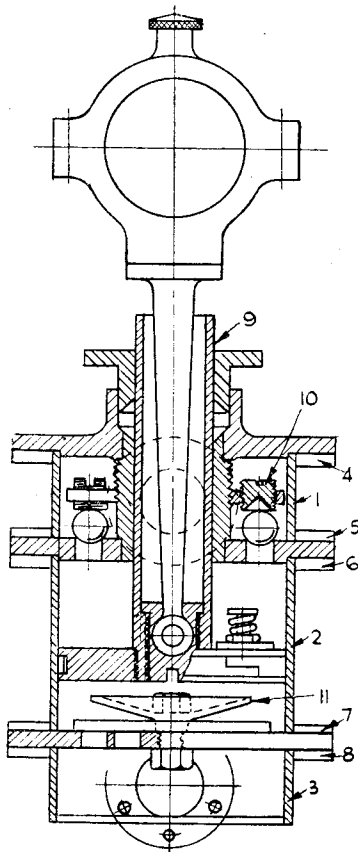
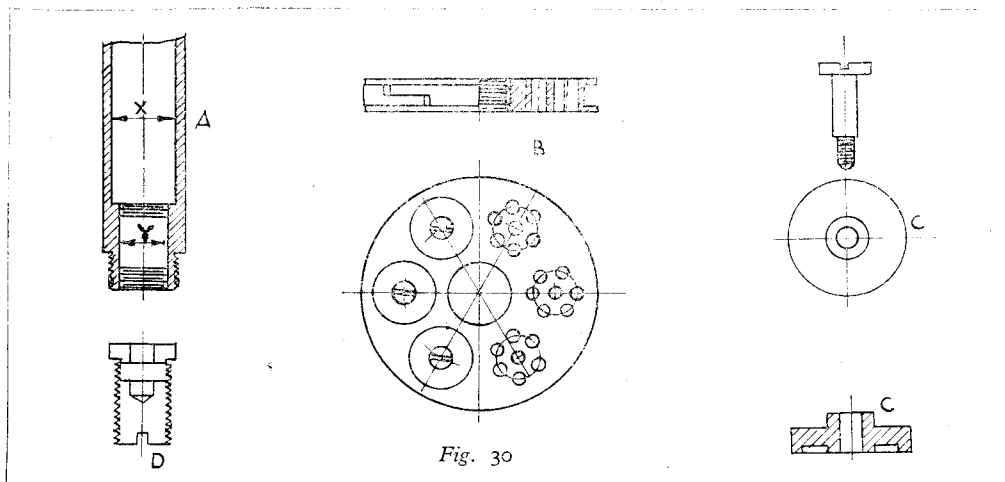
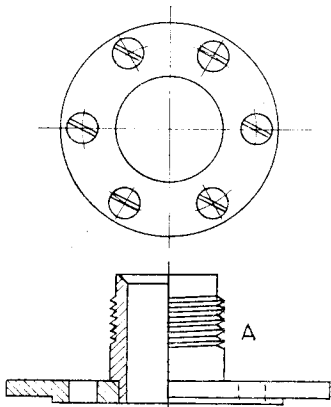

Fig. 29
Fig. 30
Fig. 31
The air-pump was the next item to claim attention. Fig. 29 is a sectional elevation of it, and apart from nuts, bolts and studs, there are 48 pieces involved in its construction. The original intention was that the air-pump should be of the Edwards type and single-acting, as this design would have involved much less work in its construction; but investigation of the capacity revealed that the stroke would have had to be very long, and the diameter very much greater than that now fitted. The next obstacle to be met was the fact that nothing large enough in diameter was available; so, to retain the existing diameter, the stroke would have to be greatly increased. The drive for the pump being by eccentric, double the present stroke which, by the way, is $\frac{1}{2}$ in., would have been necessary, and this, of course, was out of the question. The only solution was for the pump to be double-acting, $1\frac{1}{4}$ -in. bore by $\frac{1}{2}$ -in. stroke. Then the fun began. It must be remembered that, at the time this was under construction, no castings could be obtained, even if one made the patterns; so the whole pump had to be fabricated.
A piece of solid-drawn brass tube, which was once a portion of an Evinrude out-board motor and approximately $1\frac{1}{4}$ -in. inside diameter, was available and from this the body of the pump was made. Three pieces, Fig. 29, 1, 2, and 3, were cut off, and the ends turned up square, and to the requisite length, allowing about $\frac{1}{32}$ in. to be cleaned off after the flanges were in position. These were all the parts that were required to make the body.
The next thing required was the seating for the head-valves, Fig. 31; this was a portion which required careful handling, as, apart from being the head-valve seat, it carried the guide for the trunk, which must be absolutely concentric with the air-pump barrel, 2, Fig. 29, in addition to being the guide for the trunk 9, Fig. 29. This guide spigots into the top cover of the pump, and forms the lower portion of the cover stuffing-box, so it will readily
The guide and valve-seat were now forced on the mandrel, using the tailstock spindle to force it on, and the whole of the external part of the guide turned, including the threaded part, A, Fig. 31, which is screwed 36 threads per inch. The purpose of this will be referred to later on. The spigot on the opposite side of the valve-seating was now turned to be a good fit in 2, Fig. 29. The top side of the valve-seating was again trued up, and finally the outside diameter was turned to finished size. The holes in the valve-seating were marked off and drilled; they were six in number and $7/32$ in. diameter.
bit less than the thickness of the rubber. What is a tiniest bit? Well just sufficient for the valve-guard, 11, Fig. 29, to clamp the rubber in its place; 0.004 in. would be ample.
The valve-guard is a piece of brass $\frac{1}{8}$ in. thick dished over a hole to the shape shown at 11, Fig. 29. The hole in the centre of the valve-guard is a fit on the screwed portion of stud, A, and is held in position by the nut and washer as shown in Fig. 29. One thing about this guard is important; a series of holes should be drilled through it; their positions do not much matter except for the sake of appearance. The idea of these holes is to prevent the rubber sticking to the guard under working conditions; the rubber should joint on the valve-seating and not on the guard.
We will now consider the piston, or bucket, as it is usually known. Figs. 29 and 30 are intended to show the details of this part of the job, which, by the way is the most important fitting of all; for, if the bucket is not a good job, the hope of a vacuum being obtained in the
pitch-circle diameter, and the same pitch as the holes in valve seating, six No. 1 B.A. tapping-holes were drilled, and in each of these holes was screwed, also a snug fit, a short brass screw having a conical recess in the bottom end (see 10, Fig. 29). These screws were fitted in order to limit the lift of the head-valves, which are stainless steel balls, and so prevent them leaving their place of duty. The external diameter of the washer was kept as small as possible in order to prevent it interfering with the free flow of the water when the pump is at work. Fig. 31 shows the detail.
condenser would be futile. The first operation was to make the trunk 9, Fig. 29 and, A, Fig. 30. In addition to being the guide for the bucket, it holds the gudgeon-pin for the eccentric-rod which gives the bucket its motion. The position for this pin is as near the centre in every direction of the bucket as possible; this position prevents any possibility of the bucket oscillating during its upward or downward movement; also, the longer the eccentric-rod, measured from the centre of the crankshaft, the less tendency is there for the rod to bend, or the bucket to rock.
Reference to X, Fig. 30, will make it clear
that we are boring to get diameter X whilst retaining diameter Y. The bore Y is now screwed 36 threads per inch $\times \frac{3}{8}$ in. diameter. The external diameter of A is now finished so that it is a fit in the bore of the guide, Fig. 31. This must be a good fit, otherwise the advantage of the guide is partly lost.
A hole was drilled, bored and screw-cut a good fit for the reduced end of the trunk, which was then removed from the lathe, and a suitable screwed mandrel made on which the piece could be held in the chuck, turned all over, and finished to a piston-fit in the bore of piece 2, Fig. 29. The groove for the piston-ring was then turned, and the pitch-circle for the holes for the valves and their spindles marked-off (see B, Fig. 30). The holes were marked off, and
The valves were next made, they are on the lines of the Kinghorn valves which are used in modern practice, but not true Kinghorn pattern. C, Fig. 30, will explain their shape; as will be noted, they are relieved on their working face just sufficiently to clear the holes in bucket. The same figure (C) shows one of the guides on which the valves work. Each valve was separately ground whilst on its guide, in the position which it would finally occupy; fine carborundum paste was used at first, then a second grinding using "Brasso." When a satisfactory bearing was obtained, they were assembled, on their guide pins with a very fine spiral spring of hard brass wire behind them, as seen in Fig. 29. In order to obtain wire fine enough for this purpose, the barrel of a Yale lock was wrecked, these springs will be found behind the small plungers in the barrel of the lock.
The portion D, Fig. 30, was next made; this is nothing more than a brass plug, with a collar on it, which latter is the same diameter as the larger part of the bore in A, Fig. 30, and screw-cut a good fit in the part Y. When screwed into its position the under-side of the collar makes a good joint at the bottom of bore, X, A, Fig. 30. A slot is milled across the centre of the plug wide enough to take the small end of the eccentric-rod, and a hole drilled through at right-angles to the slot to accommodate the eccentric-rod gudgeon-pin.
of 1, Fig. 29. The cover was made in two pieces, i.e., the stuffing-box, and cover proper; they were shrunk together, bored, mounted on a mandrel and finished off. The top of the guide on the head-valve seat spigots into the under-side of the cover stuffing-box, and this spigot must be a good fit.
The suction and discharge branches were then made, and soft-soldered into the sides of 1 and 3, Fig. 29. They were soft-soldered because it was not considered wise to risk heating the parts 1 and 3 to the temperature required for silver-soldering, and as no pressure was involved other than that of the atmosphere, soft-solder was good enough. The flanges,
This completes the construction of the pump, except for marking-off and drilling bolt holes for jointing the various sections. There are eight 4-BA bolts in each joint and four $\frac{3}{32}$ in. studs for tightening the gland in the cover. It should have been mentioned that at the bottom of the chamber, 3, Fig. 29, is a plain disc silver-soldered in position.